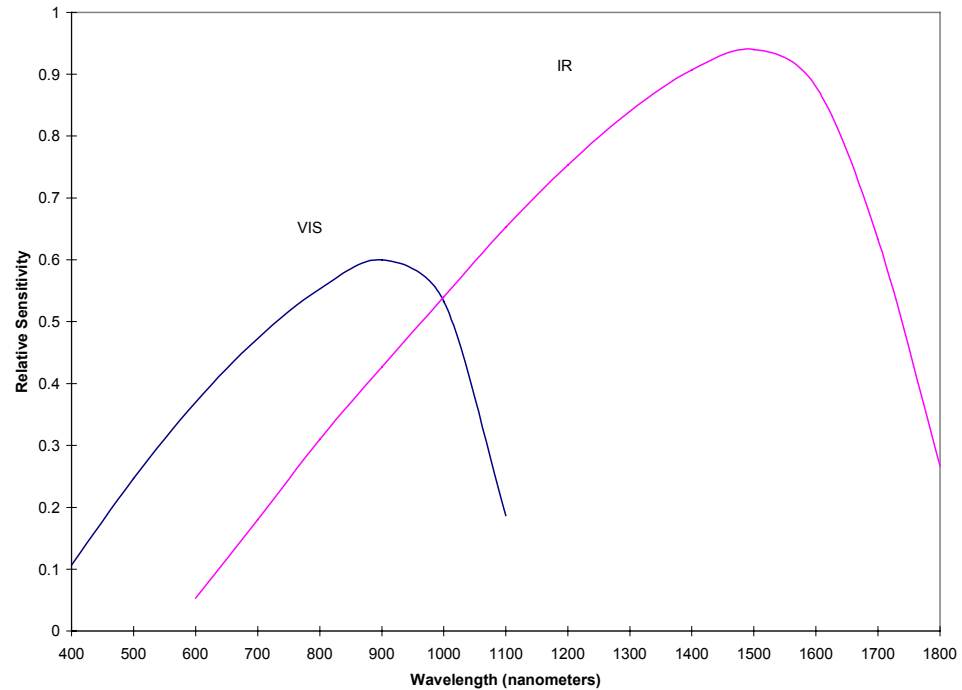

Figure 3.7. Relative Sensitivity of the Si and Ge Detectors.
The Model WA-2500 uses two detectors (Si and Ge) mounted on a common circuit board. The Detector Board must be oriented in its mounting slot to position the appropriate detector in the beam path. The Si detector is recommended for 400-1000 nm (VIS) operation, but can detect radiation to 1100 nm. The Ge detector is recommended for the 1000-1800 nm (IR) wavelength range, but can detect radiation to 600 nm. The relative sensitivity of both detectors is shown graphically in Figure 3.7. An LED mounted to the Detector Board illuminates the appropriate rear panel window to identify which detector is in position. Either detector can be used to check or perform a calibration of the Wavemeter_{jr} at 632.8 nm.